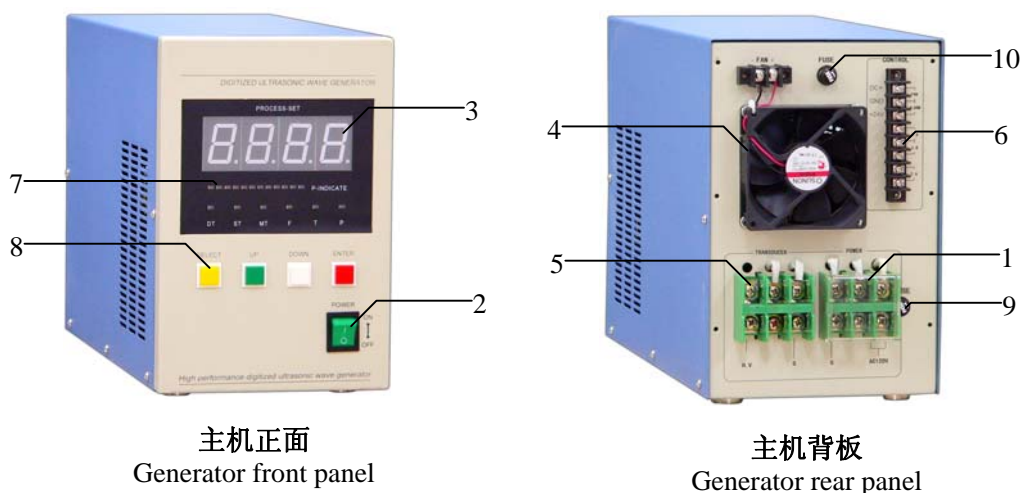

Figure 1. The Generator Front and Rear Panel
- Usually set Ultrasonic OFF Time(MT) zero, generator activate ultrasonic output continually.
- Push the **SELECT** button until the red LED(F) flash, the Frequency is shown.
- Push the **SELECT** button until the red LED(P) flash, then set the Power(P).
- Push the **ENTER** button, generator generates ultrasound waves to ultrasonic amplitude transformer as Ultrasonic ON Time(ST) set.
- If Welding Power(P) is not suitable, push the '▲' button and '▼' button. There are twelve red LEDs (marking number '7' on the Generator front panel, Figure 1.) representing the current, every LED means about 1A.